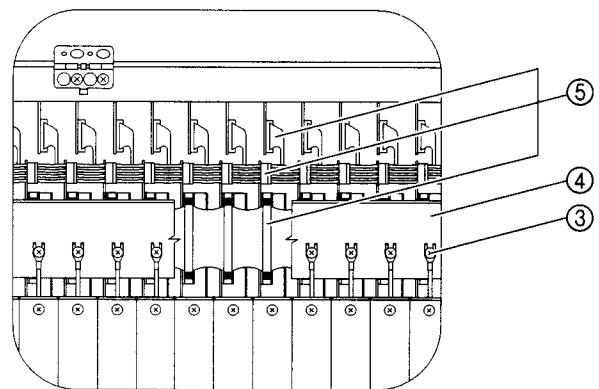

Fig.3
4. Remove the ground connection (3) on the ground bridge. (Fig.3)
5. Remove the ground bridge holding screws so that the ground bridge (4) can be raised and the three connections (5) disconnected. (Fig.3)